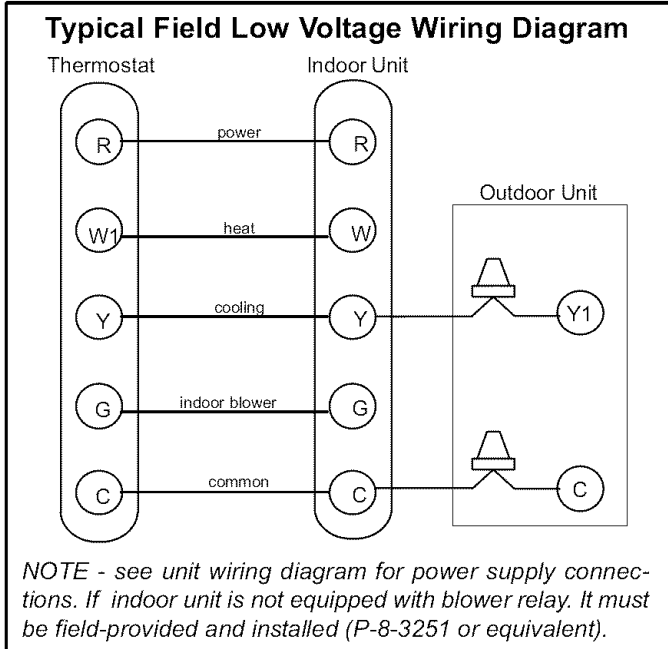

Figure 4
5. Install low voltage wiring from outdoor to indoor unit and from thermostat to indoor unit. See figure 4.